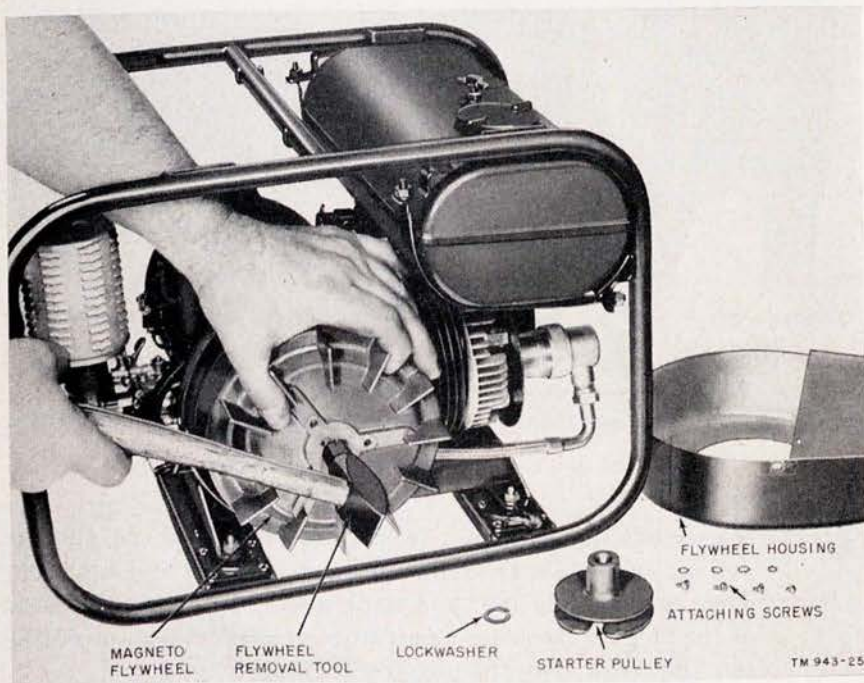

Figure 25. Removing engine flywheel.
- (1) Remove the flywheel housing (fig. 25), which is attached by four screws with lockwashers.
- (3) Screw the flywheel removal tool onto the crankshaft and tap its end with a hammer until the flywheel loosens on the crankshaft taper (fig. 25). Pull on the flywheel to take advantage of any crankshaft end play. Remove the flywheel from the crankshaft.